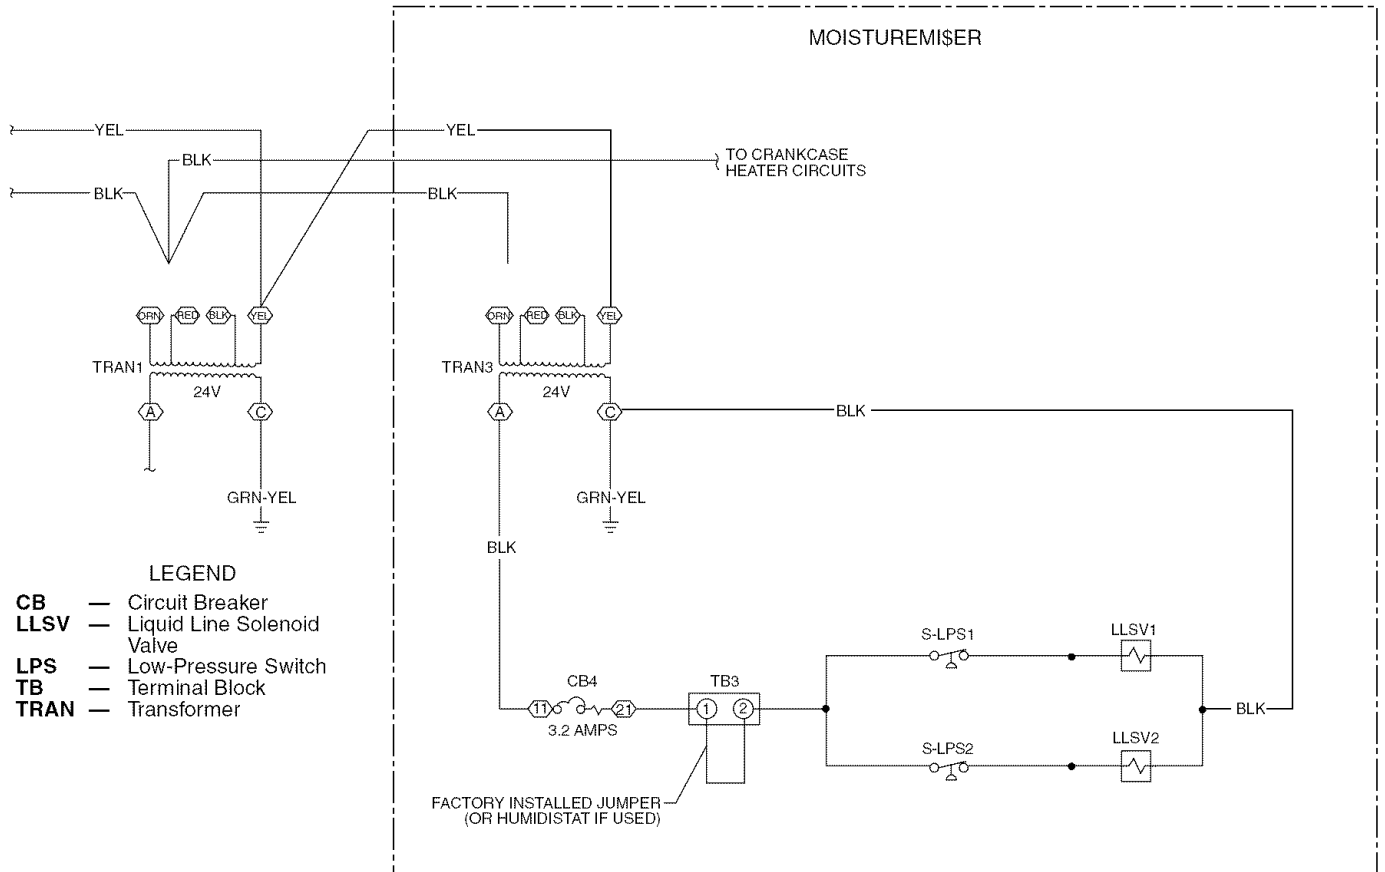

Fig. 41 — Typical MoistureMi\$er Dehumidification Package Humidistat Wiring Schematic (460 V Unit Shown)
2. Route thermostat cable or equivalent single leads of colored wire from Humidistat terminals through conduit in unit to the low voltage connection on the 2-pole terminal strip (TB3) as shown in Fig. 41 and Fig. 42. See Fig. 43 for operational diagram.